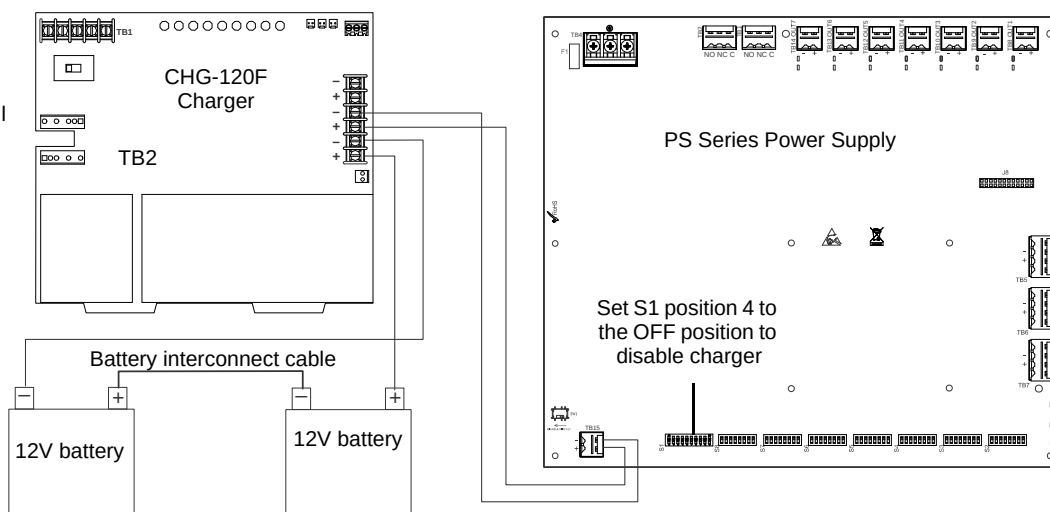

Figure 2.9 Connecting the Power Supply to a CHG-120F Charger
- Connect the battery cables between TB15 (+ and –) on the SK-PS and the CHG-120F charger output circuit (TB2: Out 1+ and Out 1–) as shown in Figure 2.9. Be certain to observe polarity.